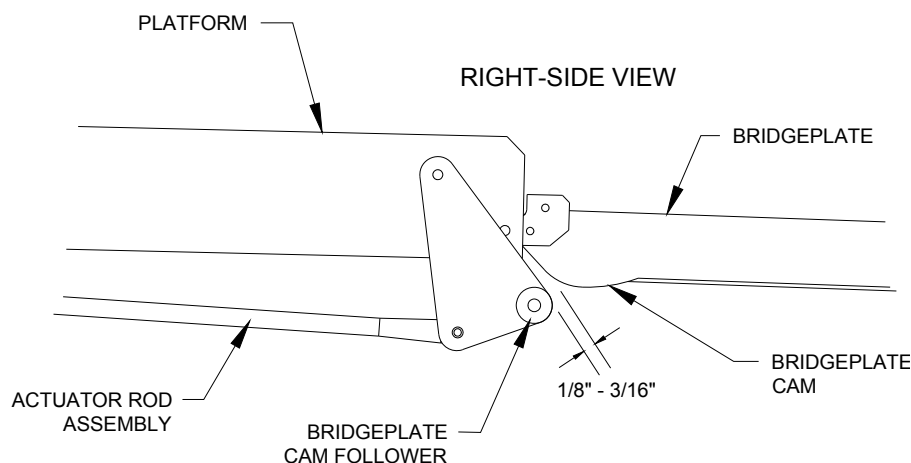

FIGURE 2-4: BRIDGEPLATE ADJUSTMENT
- h. Refer to **Figure 2-4**. Turn left-side rod-end to achieve a clearance of 1/2" to 3/4" between bridgeplate cam and bridgeplate cam follower when shoulder bolt and spacer are installed. Tighten shoulder bolt, then tighten rod-end jam-nut.